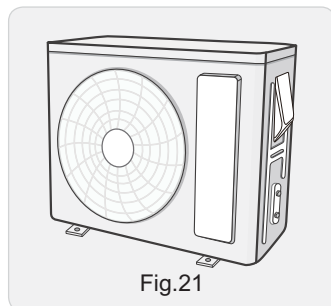

Fig.21
- (1) Remove the screw on the right handle of outdoor unit and then remove the handle. (As show in Fig.21)